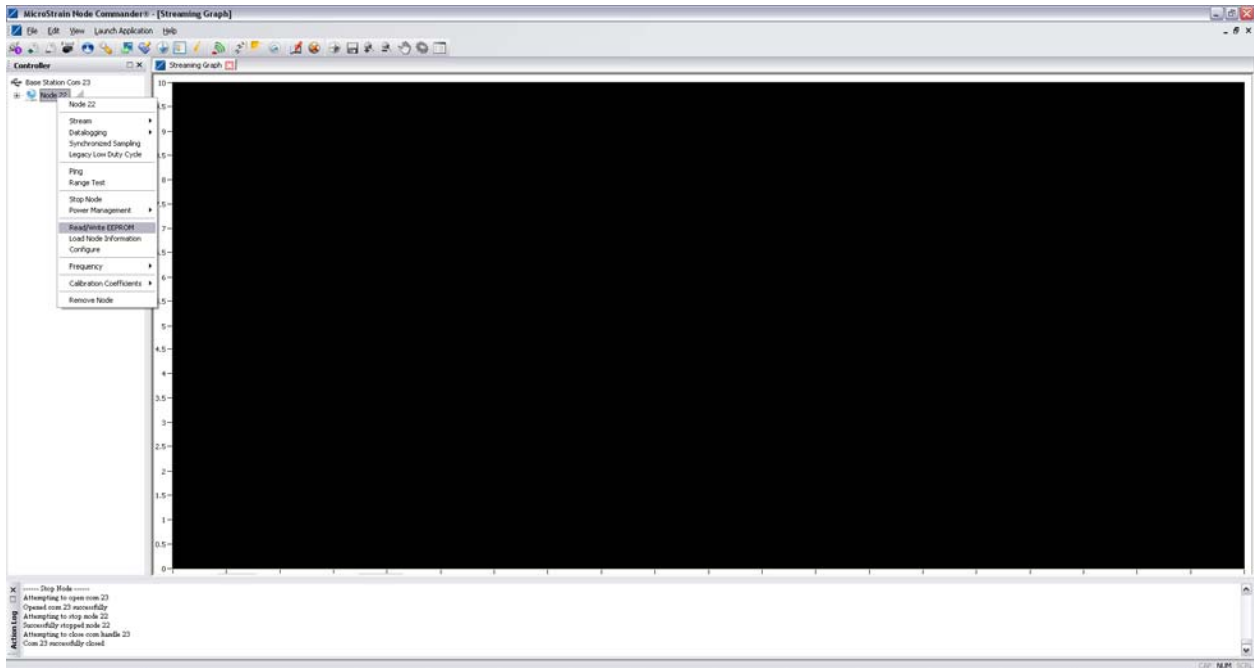

**Figure 13. Selecting Active Sensors**
- Select the number of channels under the Channels tab, in this case, we are monitoring the Wheatstone bridge channel, so check they first box. (Figure 13)
- Program location 14 & 40 to the appropriate values, in this case location 14 should be programmed to 64 Hz and 40 to a buffer size of 48 (which is maximum). To program enter the address in the EEPROM Address box and the value to program in the Value box and press the Write button. The written value can be verified by pressing the read button. When complete press the Close button. (Figures 13 & 14)